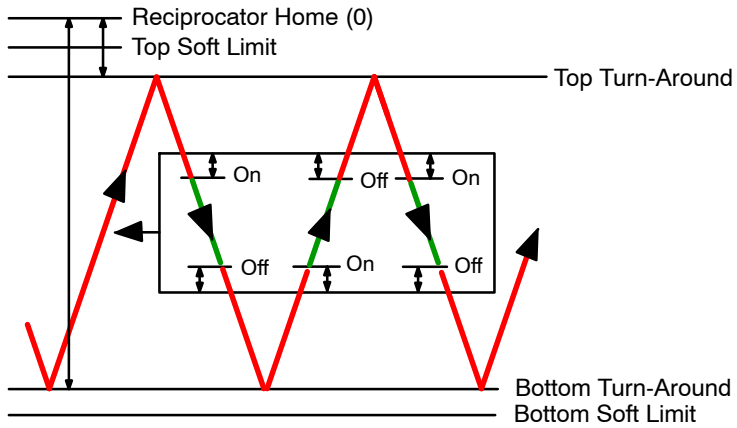

Figure 4-18 Fixed Mode – Trigger Settings Negative, Restricted Pattern
- Negative trigger points restrict the spray pattern (see Figure 4-18).